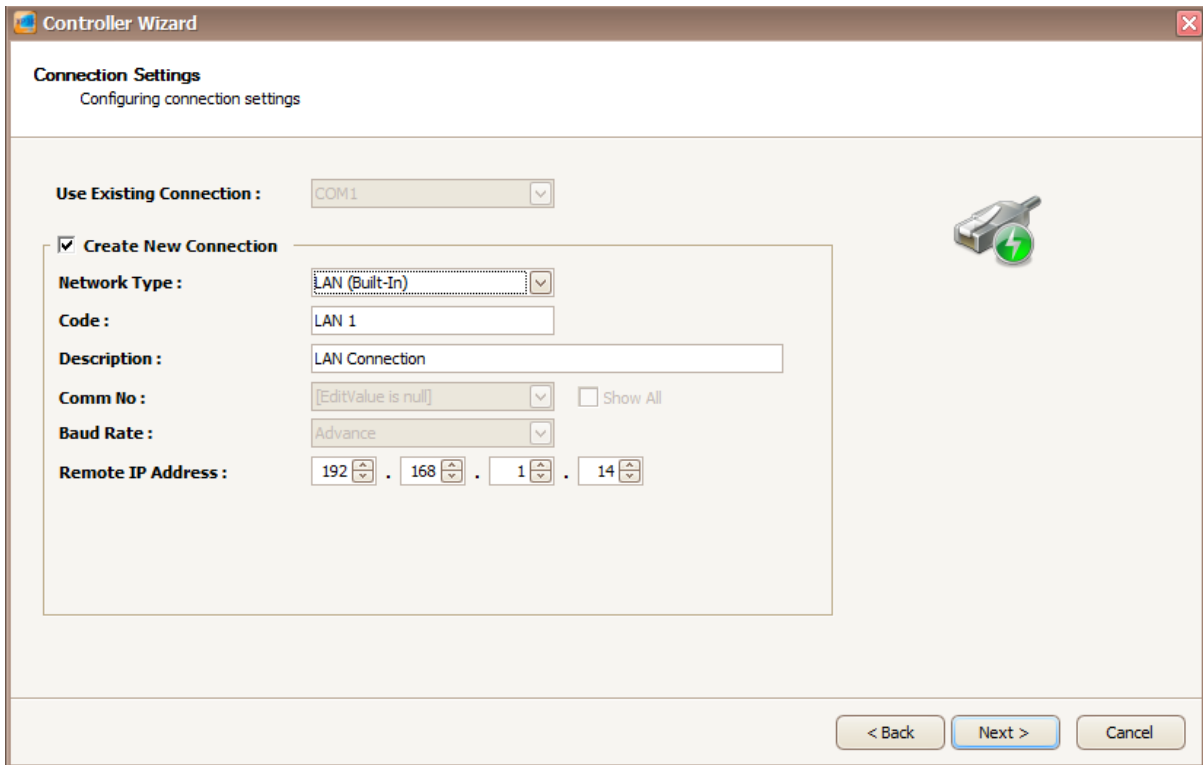

Figure 37 - Connection Settings (LAN Connection)
- If you check the "Create New Connection" checkbox, you may create either Direct Serial Port connection or Local Area Network (LAN) connection. Refer **Figure 37** below for LAN connection setup.